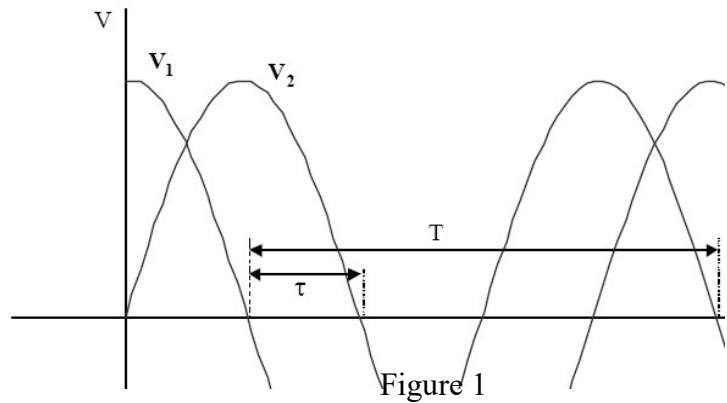

Figure 1
-Make the connections as shown in Figures 1 and 2.